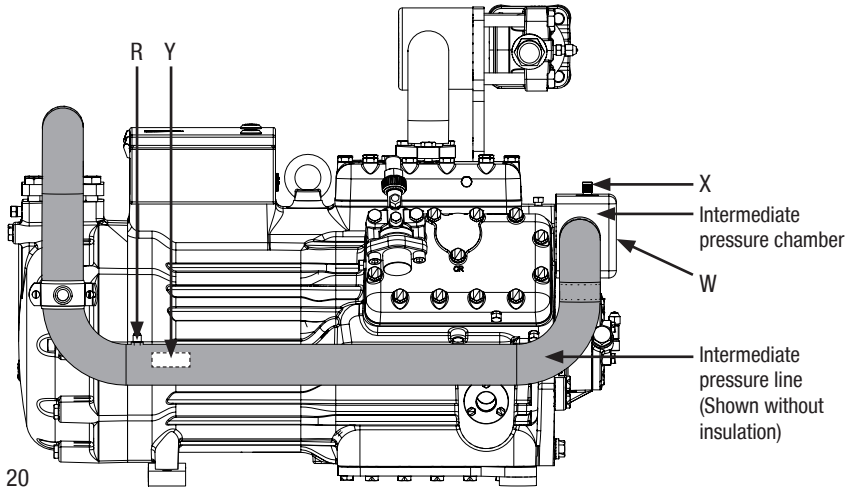

Fig. 20
**The intermediate pressure line and intermediate pressure chamber are fully insulated at the factory. To mount the expansion valve, cut the insulation as shown in the marked area in Fig. 20, page 16. Correct sensor placement is marked by an unpainted area on the pipe.**